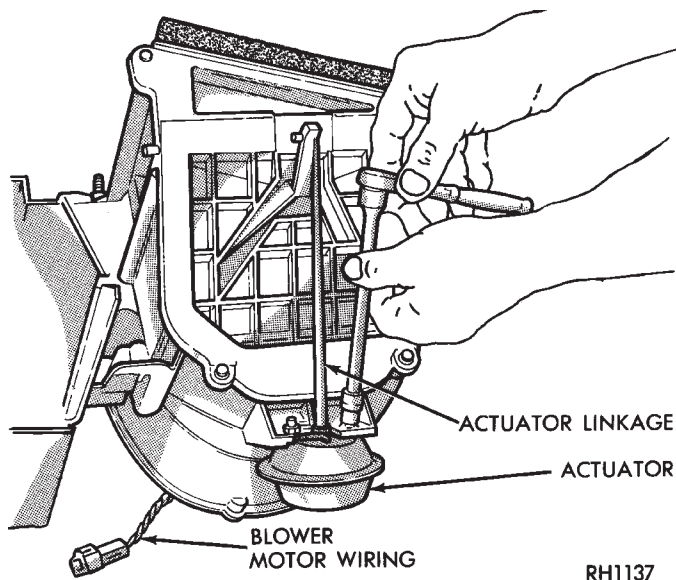

Fig. 4 Removing or Installing Fresh/Recirc Vacuum Actuator and Linkage
(6) Disconnect actuator linkage from fresh/recirculation door and vacuum lines from actuator. Loosen two nuts attaching actuator to housing and remove actuator (Fig. 4).